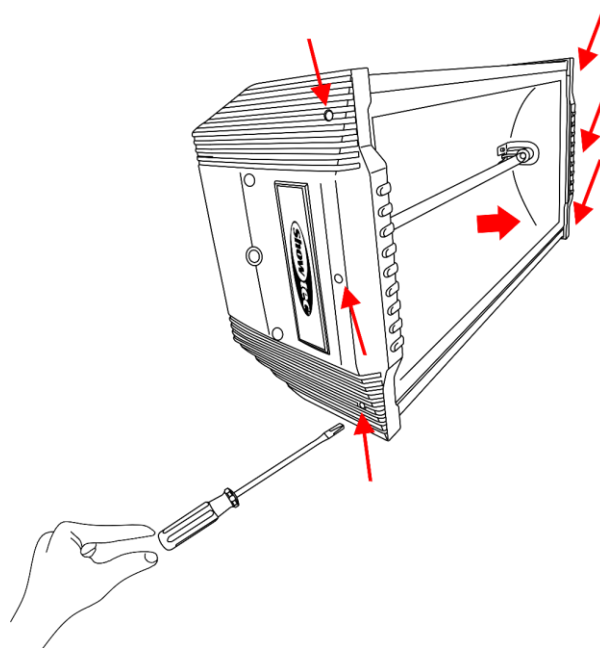

Fig. 04
- 03) Unscrew the 3 screws at the top on both sides (Fig.04).
- 04) Remove the 2 panels at the top (Fig.04).
- 05) Remove the glass cover (Fig.04).